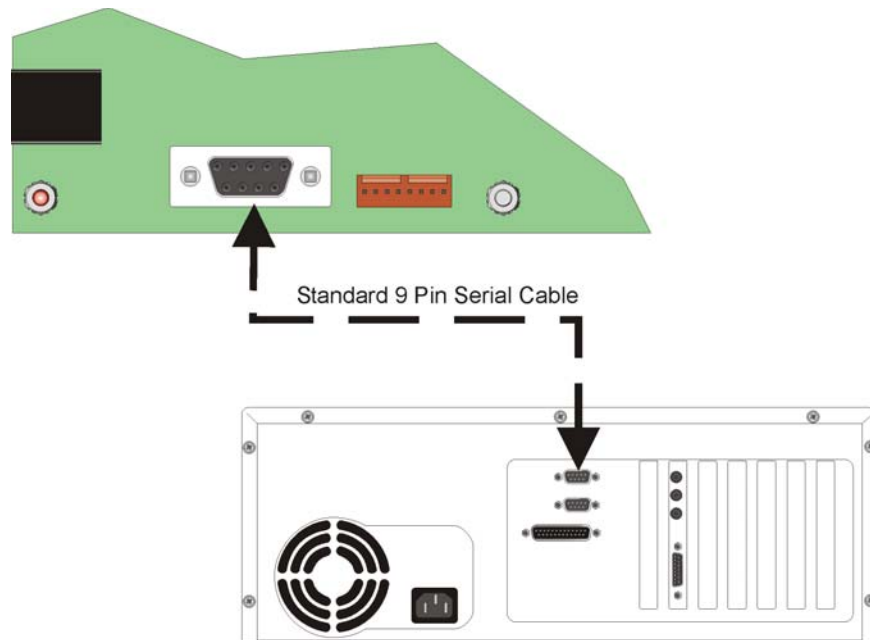

Figure 4-5 Serial Cable Connections
2. Connect the PC to the VIP-VCM using a standard 9-pin serial cable. See Figure 4-5.